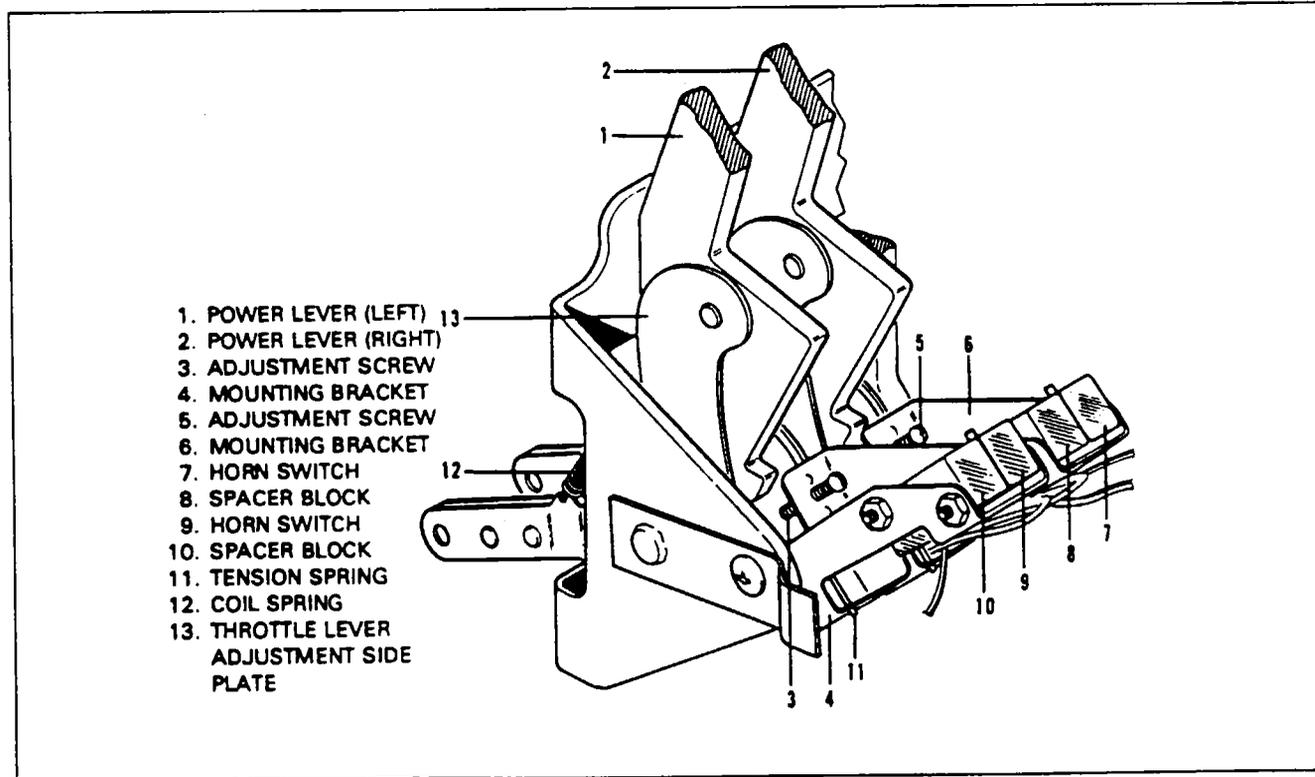

Figure 32-27. Gear Warning Switches Installation
**REMOVAL OF GEAR WARNING SWITCHES. (Refer to Figure 32-27.)**
**INSTALLATION OF GEAR WARNING SWITCHES. (Refer to Figure 32-27.)**